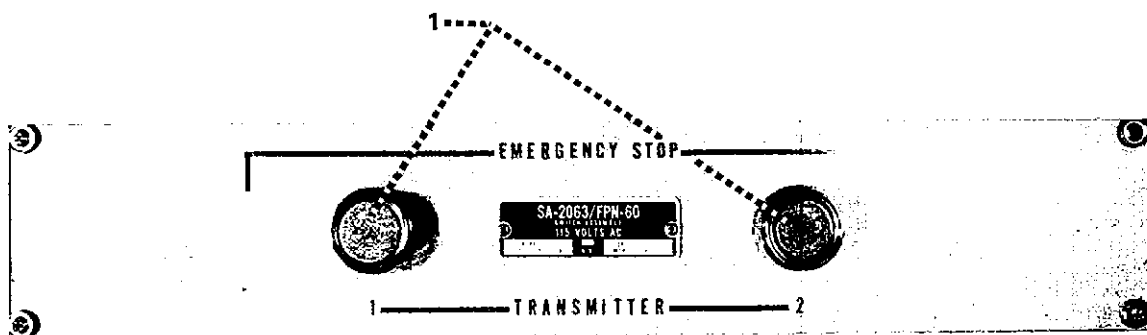

Figure 3.1. Switch Assembly
3.2.1 Switch Assembly. The Switch Assembly (Figure 3.1) contains the following controls: